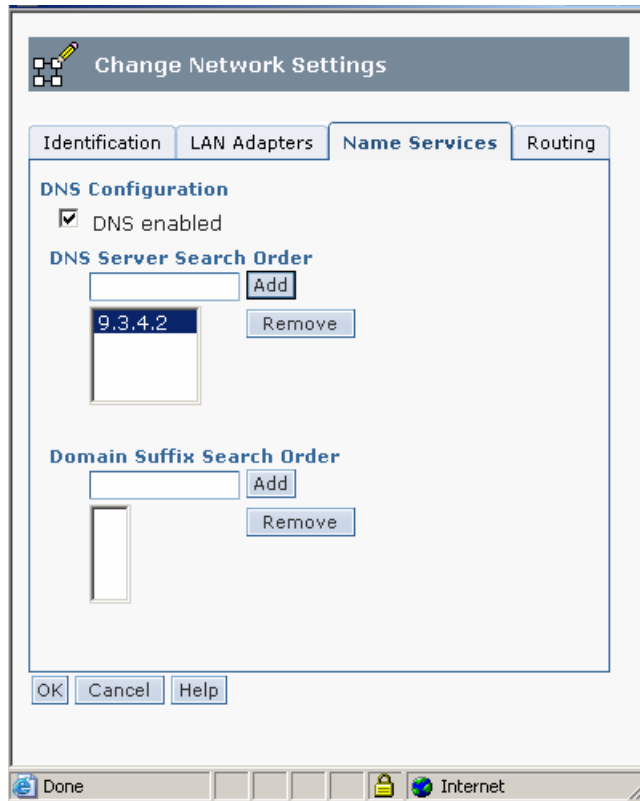

Figure 6-5 Name Services tab
You use the Name Services tab to specify Domain Name Services (DNS) for configuring the console network settings (Figure 6-5). DNS is a distributed database system for managing host names and their associated Internet Protocol (IP) addresses. With DNS, people can use names to locate a host, rather than using the IP address.